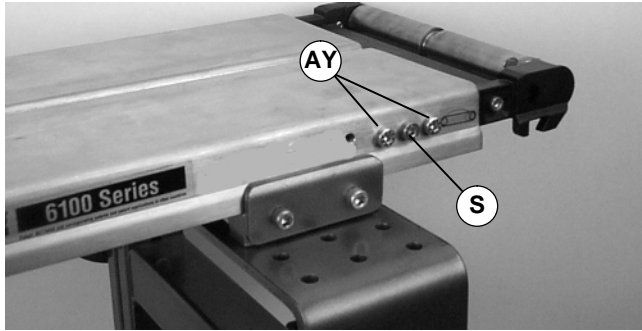

Figure 38
1. Remove screw (S of Figure 38).
2. Remove four (4) tail plate mounting screws (AY of Figures 38 & 39).